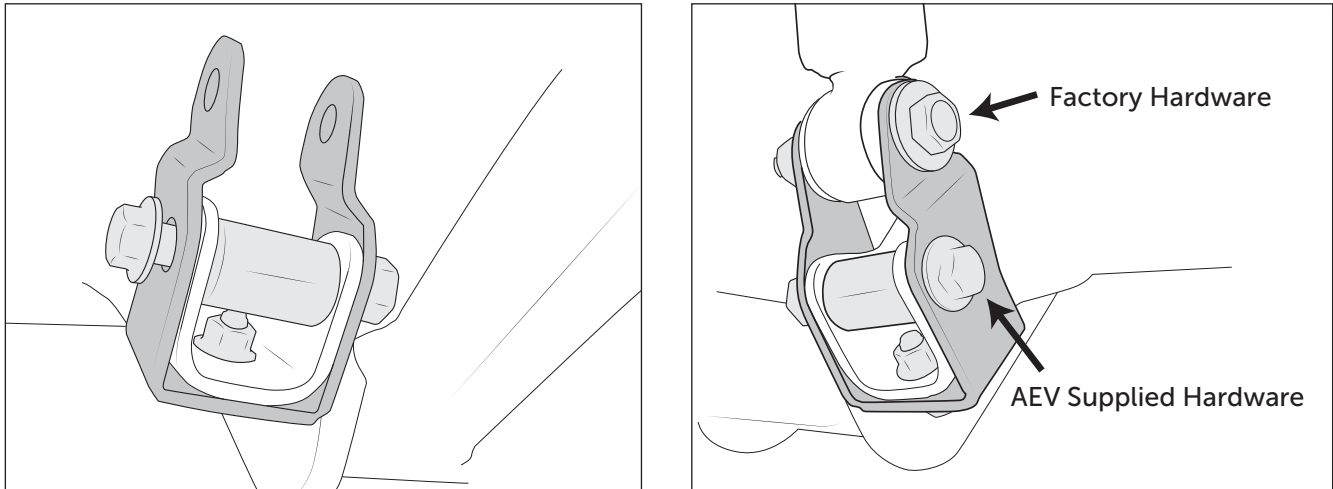

Figure 18
12. Install AEV shock extension brackets as shown, then re-install factory lower shock mount hardware (fig. 18). You may need to pull the shock body downward to reach the shock bracket. This is normal due to internal shock bumpers. NOTE: Due to variation in factory brackets, you may be required to enlarge the bottom hole slightly using a drill bit or round file. JT Mojave uses provided M14x80mm bolts, washers, crush sleeves, and nuts to attach the front shock extension brackets, all other JT trim levels use M12x70mm bolts, washers, crush sleeves, and nuts for the front shock extensions.